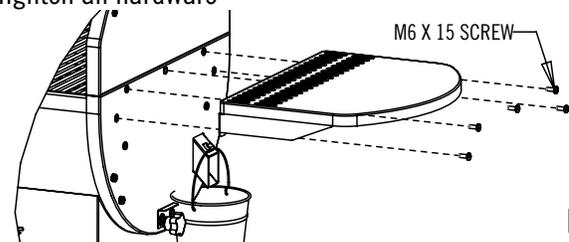

FIG. 5
1. Install hopper handle as shown in Fig. 5.
1. Install shelf as shown in Fig. 5.